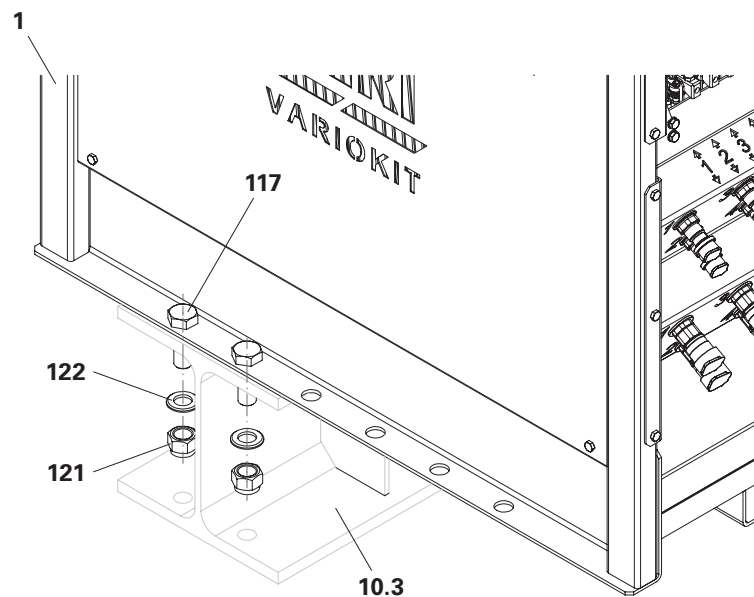

Fig. B4.01
4. Remove the crane lifting gear. (Fig. B4.01)